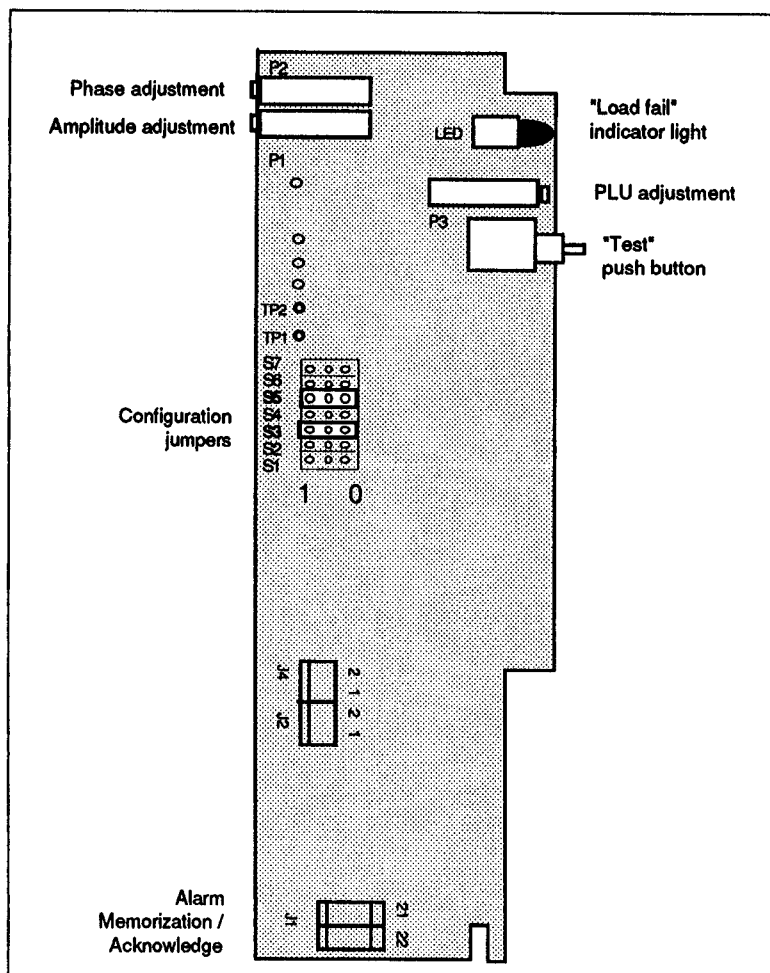

Figure 6-4 Position of adjustment equipment on the PLU board
- set jumper S5 on the PLU board to position 1 (see figure 6-4)
- Using the potentiometers **P1** (signal amplitude) and **P2** (signal phase) located on the PLU board (see figure 6-4), adjust in alternation to obtain the minimum of the error voltage.